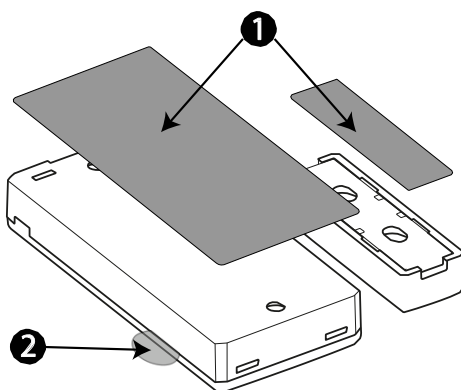

Figure 2: Quick installation
1. Peel the release liners off the two strips of double-sided adhesive tape and attach the tape to the back of the device and the magnet. See Figure 2.